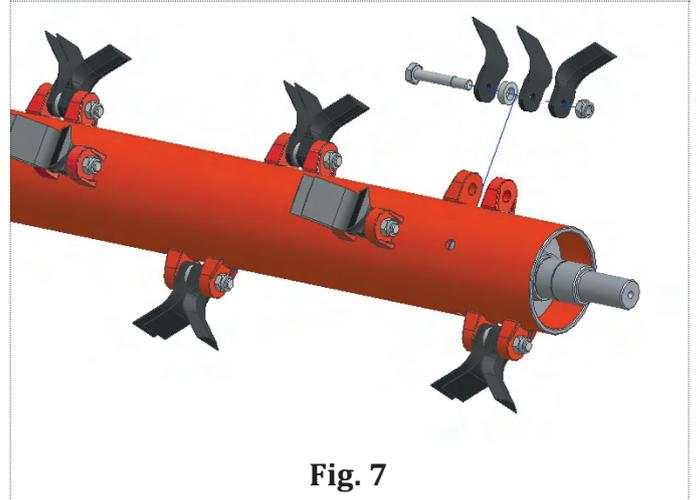

Fig. 7
- Remove the nut 1 (Fig. 7) of the bolt that fastens the worn hammer. During the assembly phase, make sure that the new hammer is fixed in the same position;
- Remove the nut 1 (Fig. 7) of the bolt that fastens the worn tines. Take care to check the positions of the various components, particularly the spacers 2 (Fig. 7). Make sure that the new tines and components are assembled in the same positions.